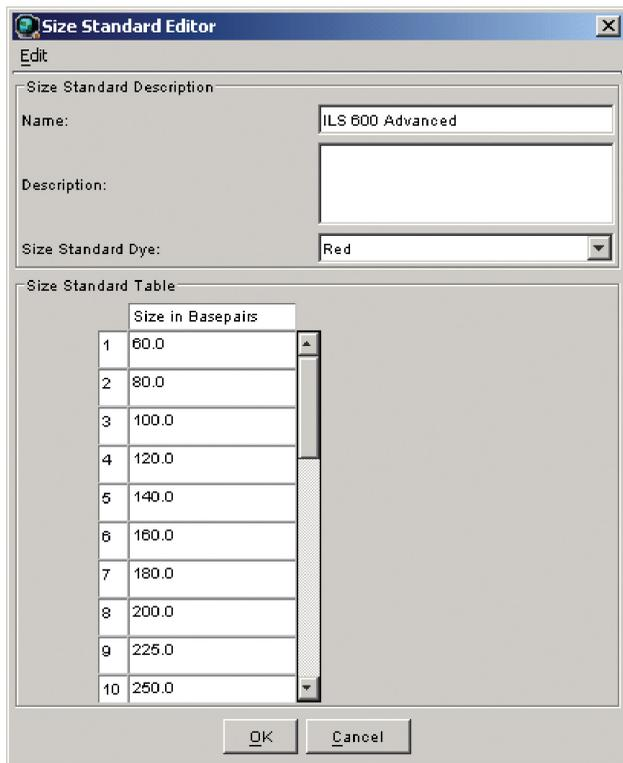

Figure 4. The Size Standard Editor.
5. Enter a detailed name, such as “ILS 600 advanced”, in the Size Standard Editor (Figure 4).